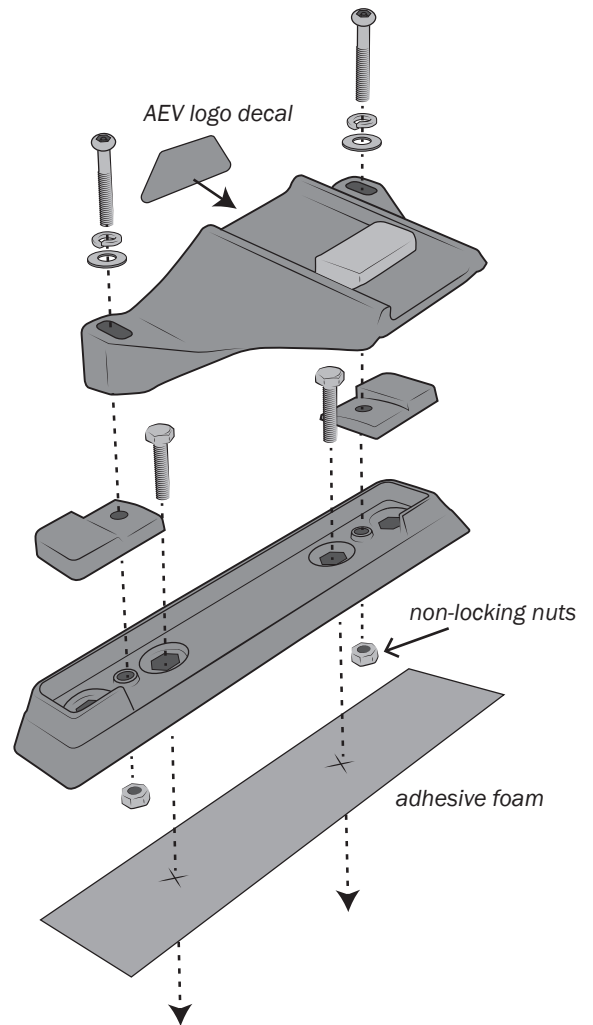

Figure 11
1. Pre-Assemble all four stantions as shown (fig. 11) leaving finger tight at this time. *NOTE: Additional hardware is included that is not required for this application.* Adhere the adhesive backed foam to the stantion foot, cut holes for the bolts to pass through, and trim tight to foot. Adhere the AEV Logo Decals to the stantions using the supplied alcohol swab to first clean the surface.